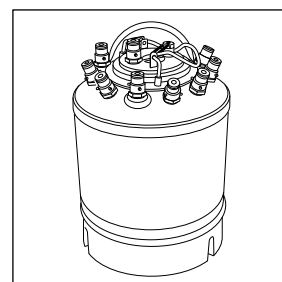

Fig. 23
- Fill the cleaning container (Fig. 23) with water.
- Connect all basic ingredient tubes/beverage tubes to the cleaning container (Fig. 23).